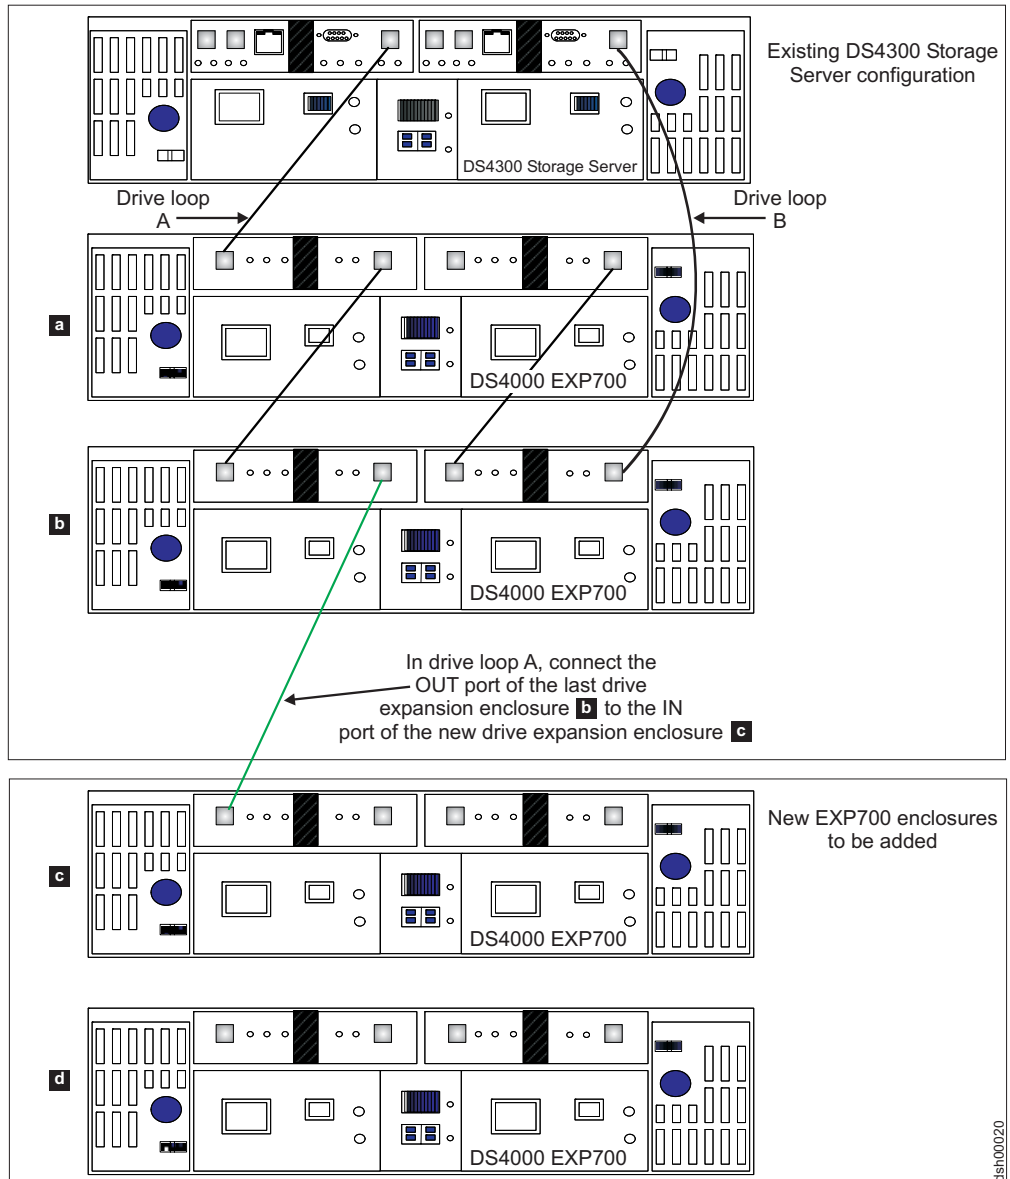
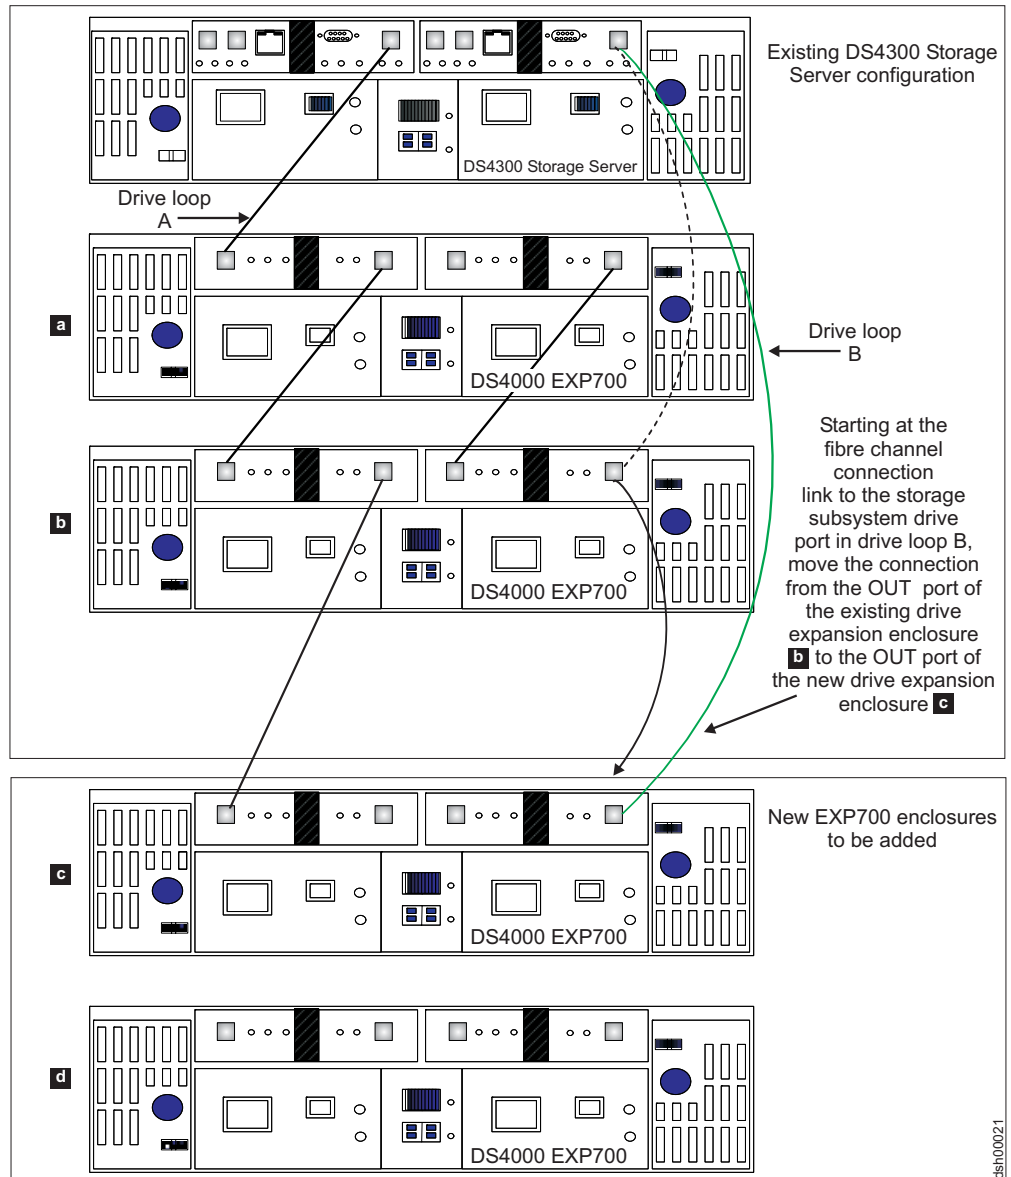
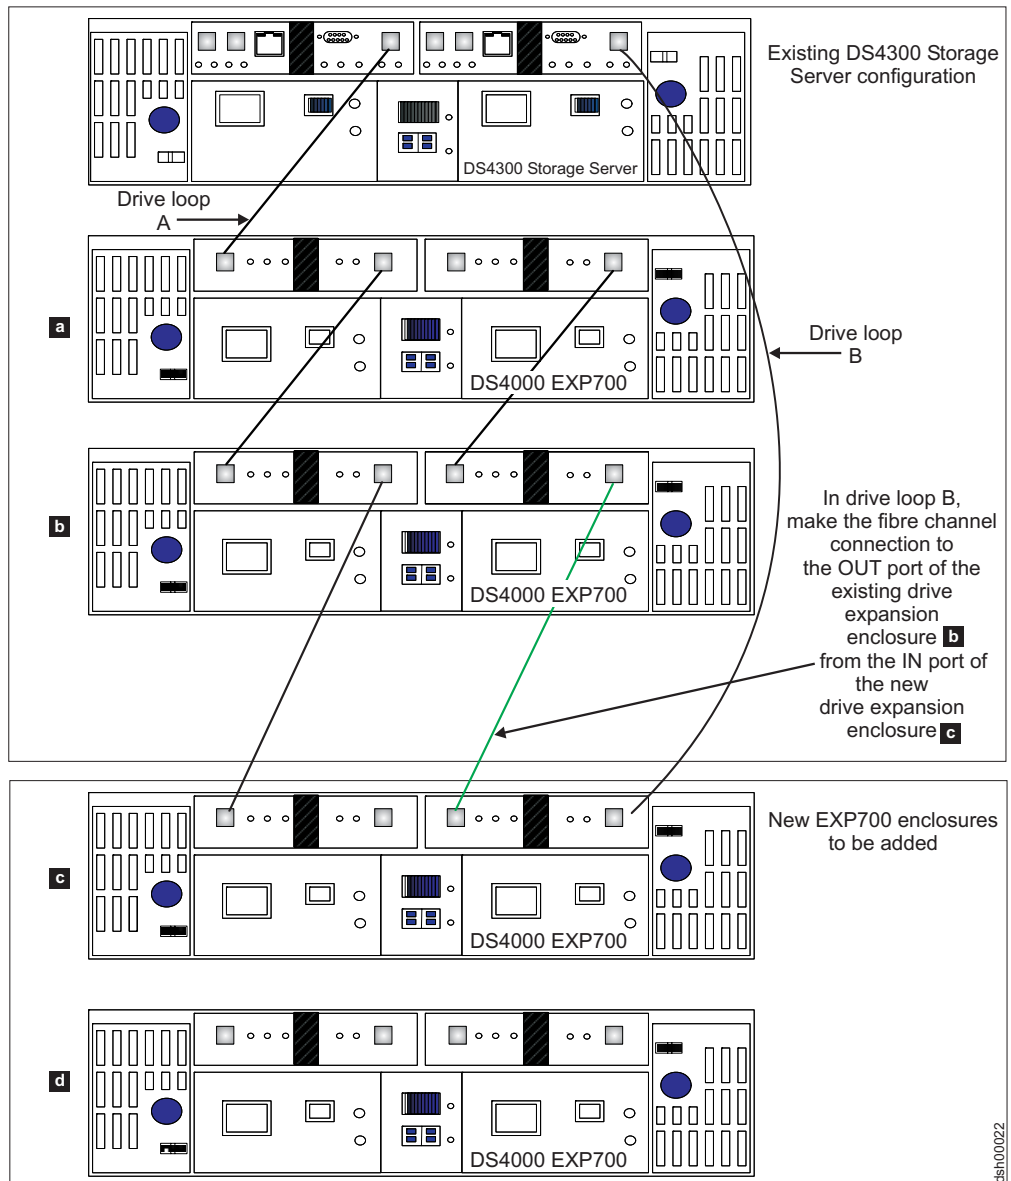

Figure 27. Cabling a single drive enclosure to the end of a functioning drive loop (step 1 of 3)
Figure 28. Cabling a single drive enclosure to the end of a functioning drive loop (step 2 of 3)
Figure 29. Cabling a single drive enclosure to the end of a functioning drive loop (step 3 of 3)
The cabling instructions illustrated in Figure 27 on page 88, Figure 28 on page 89, and Figure 29 on page 90 describe cabling a DS4000 14-drive expansion enclosure EXP700 to the end (bottom) of a redundant drive loop of a functioning DS4300 Storage Subsystem (model 60X or 60U). The same procedure can also be used to add any 14-drive expansion enclosure to any of the DS4000 Storage Subsystems. Again, IBM recommends that you add storage expansion enclosures to existing drive loops only in this manner.
- ___ Step 2. Extend one of the drive loops (that is, drive loop A) in a DS4000 Storage Subsystem redundant drive loop pair by connecting the OUT port of the last storage expansion enclosure to the IN port of the storage expansion enclosure as shown in Figure 27 on page 88.
- ___ Step 5. In the other drive loop (drive loop B) in a DS4000 Storage Subsystem redundant drive loop pair, remove the connection from the storage subsystem drive loop port to the OUT port of the last storage expansion enclosure and connect it to the OUT port of the drive enclosure as shown in Figure 28 on page 89.
- ___ Step 7. In drive loop B, cable the drive enclosure's IN port to the OUT port of the last enclosure in the already functioning storage expansion enclosure drive loop, as shown in Figure 29 on page 90.